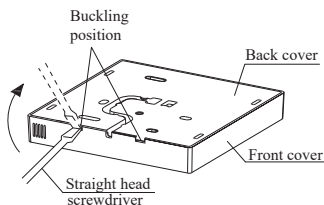

Fig 3-2
- Insert a slot screwdriver into the slots in the lower part of the wired controller (2 places), and remove the upper part of the wire controller. (Fig.3-2)